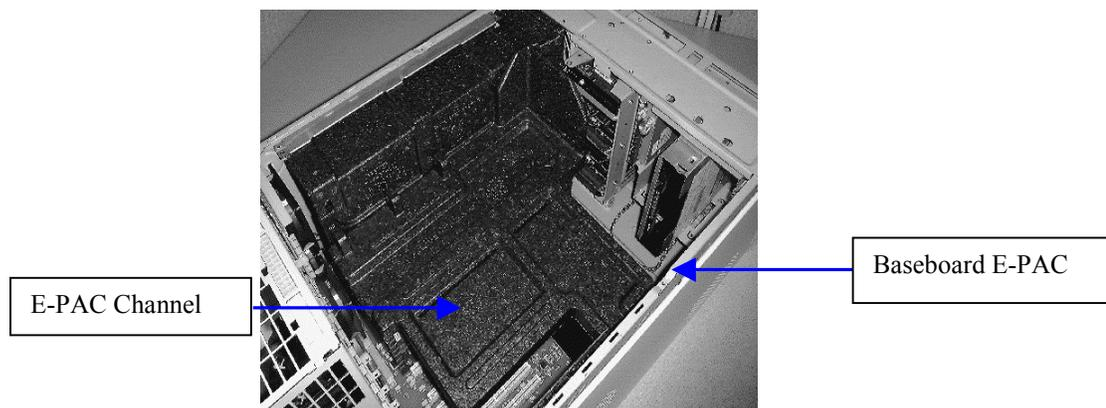
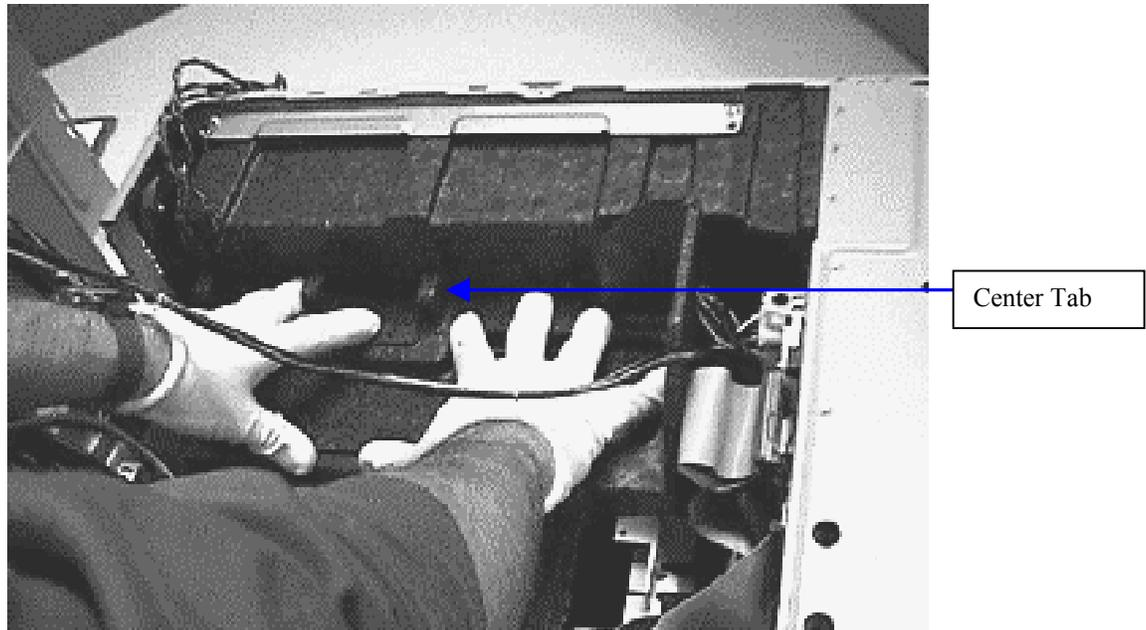

Figure 15. E-PAC Inserted over Memory Cards
Figure 16. E-PAC Installation
8. Verify that the Baseboard E-PAC is in place over the memory cards as shown in Figure 15. the center tab should align with the E-PAC of the processor assembly. If necessary position your fingers over the E-PAC as shown in Figure 16 and push down. The E-PAC should "pop" into place.